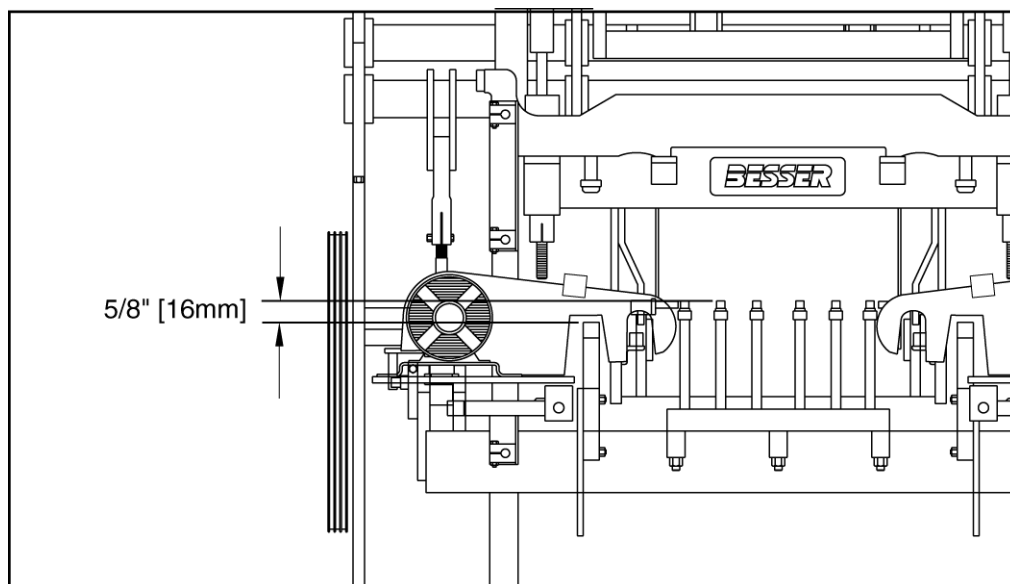

Figure 4.27 PALLET RECEIVER RUBBERS POSITION
- 4.2.5 Adjust the pallet receiver frame so that the pallet receiver rubbers are **5/8" [16mm]** above the mold throat (see figure 4.27).